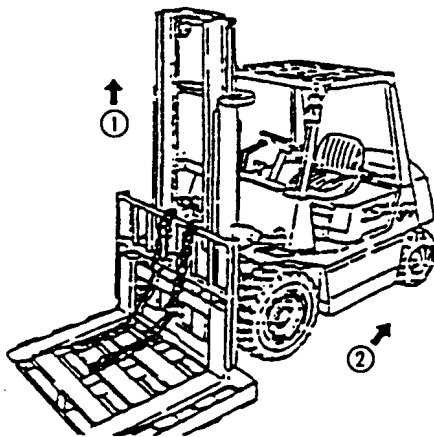
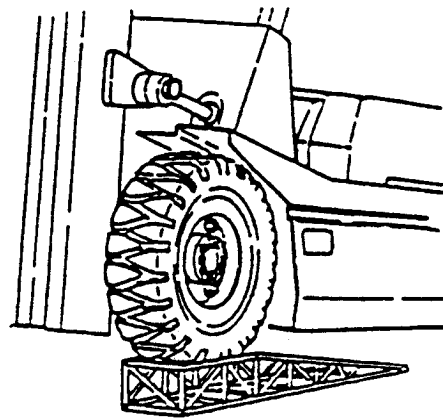

Fig8.7
Fig8.8
- (1) Place a pallet on the forks and let the truck parking on the horizontal ground.
- (2) Make the forks and the pallet down to the ground.
- (3) Disassemble the end nipple of the upper chain and take the chain down from the sheave.
- (4) Lift the inner mast (See Fig8.7 ①).
- (5) Make the truck back-up if the lift bracket is fully separated from the outer mast.
(See Fig8.7 ②)
- (6) Replace the main rollers.
8.6.4 Replace rollers (Fig8.8)